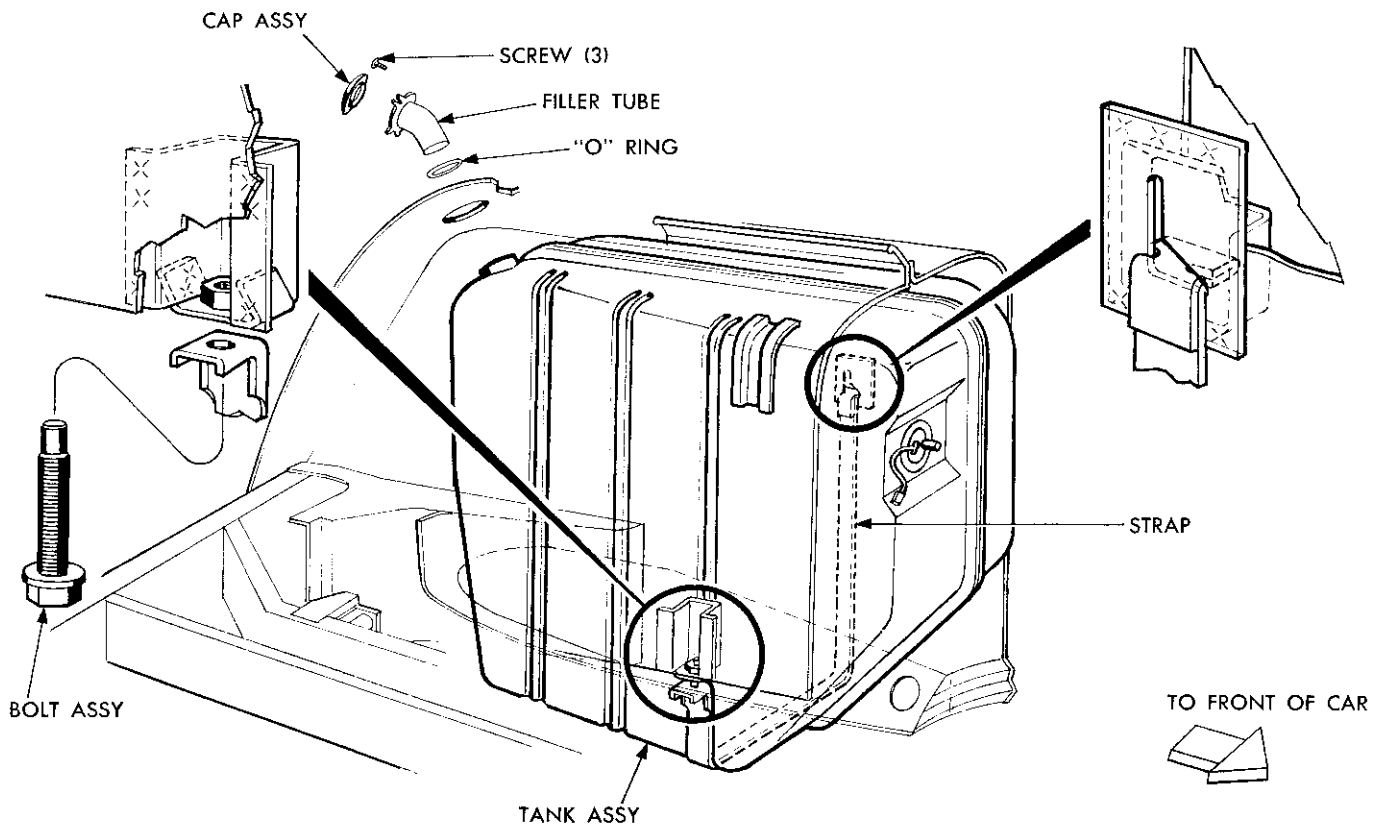

Fig. 41—Fuel Tank Mounting (Town and Country)
The fuel tank on all models except the Town and Country Models is located at the rear of the body, under the trunk compartment floor, as shown in Figure 40. In the Town and Country models, the fuel tank is mounted in the left rear quarter panel beyond the wheel house, as shown in Figure 41.
(Fig. 41)**
disengage the hold down strap from the bracket. If strap is to be replaced, refer to Figure 41.
(1) Position the fuel tank gauge unit in tank, using a new gasket. Tighten securely, using Tool C-3582.
(2) Slide the hold down strap up under quarter panel, inserting the end of strap into slot. Allow the strap to hang.
(3) Install a new "O" ring in the neck of the tank. (Fig. 41).
(4) Slide the tank up under the quarter panel with the gauge unit facing front of the vehicle. Push the tank up into position. Make sure the filler neck is aligned with the opening in top of the quarter panel. Attach with the strap and bolt. Do not tighten.
(5) Place a new gasket over the filler tube and down against the flange. Insert the filler tube down into neck of tank. Drive the tube into "O" ring until the dimples in the tube contact the seal retainer. Be sure the anchor tab on tube is aligned with a screw hole. Install the screws and tighten securely.
(6) Tighten the fuel tank hold down strap bolt securely.
(7) Install the stone shield. Connect fuel line and lead to gauge unit. Reinstall the button plugs. Refill the tank and check for leaks.